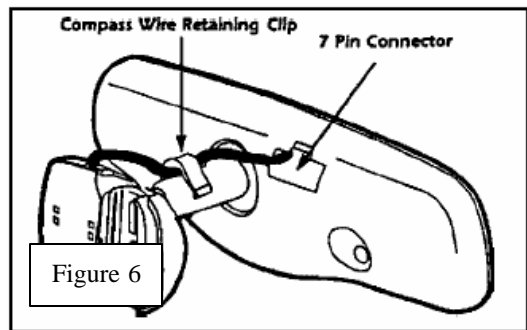

Figure 6
- Plug the wire harness 7-pin connector into the back of the mirror (**Figure 6**).